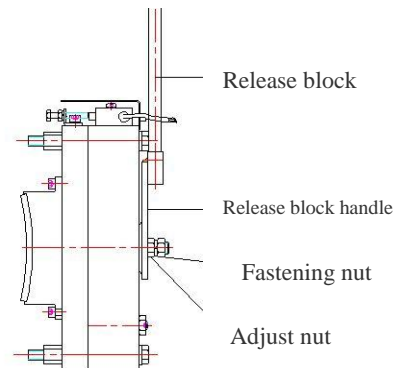

Figure23
4.6.2 The removal, as shown in figure 23
- ① Loosen the hollow bolt: rotate the hollow bolt 2 circles anticlockwise;
- ② Screw out the fastening bolt: rotate the set bolt 2 circles a time anticlockwise until the bolt brakes away from the end cover of the motor;
turn right or left about 15° flexibly, if can't it is need to adjust (shown as figure 23) , otherwise, it will affect the braking function. The adjust method: keeping the fastening nut static, then rotate the adjust nut clockwise to fasten the release rod, anticlockwise to relax the rod. Lock the fastening nut finally after adjustment completed.